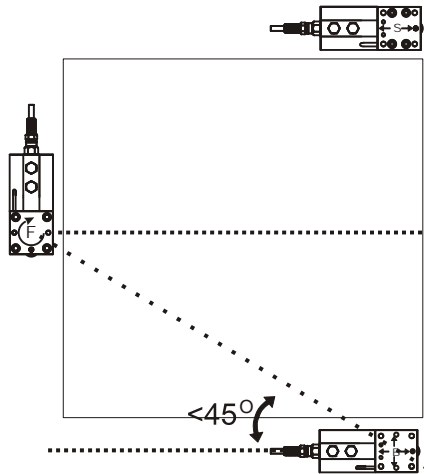

FIG. 9: ANGLE FOR FIXED AND BUMPER LOAD CELLS IN SQUARE CONFIGURATION
- Step 14. Install the base plate nuts. (See Fig. 9) Tighten them finger tight. You may need to adjust the jacking nuts later as you install the rest of the load point assemblies for the weighing system.